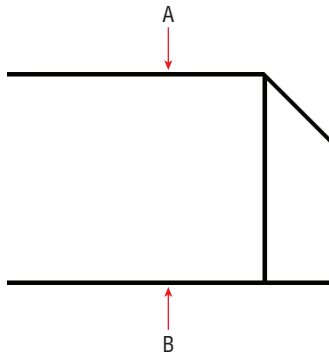

FIGURE 3.14 Overriding running snaps with Nearest snap
9. Zoom into point A or B in Figure 3.14, and verify that the lines are connected perfectly. Click Zoom Previous in the Navigation bar to return to the initial overall view.
10. Type L, and press Enter. Hold Shift down, right-click to open the Object Snap context menu, and choose Nearest. Object snaps invoked from the context menu override any running object snaps. Click point A, shown in Figure 3.14. Nearest ensures that the new line is attached somewhere along the edge of the horizontal line.
11. Move the cursor close to point B, as shown in Figure 3.14, and click when the perpendicular marker appears. Press Esc to end the LINE command.